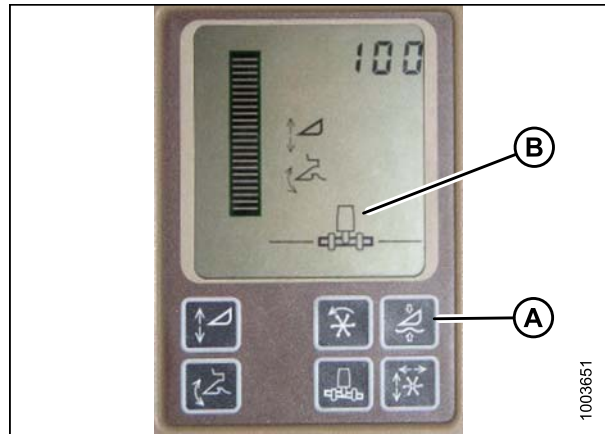

Figure 7.84: John Deere Combine Display
Do **NOT** use the active header float function (A) in combination with the MacDon auto header height control (AHHC)—the two systems will counteract one another. The header symbol (B) on the display should NOT have a wavy line under it and should appear exactly as shown on the Active Header Control Display in Figure 7.84: *John Deere Combine Display*, page 188.